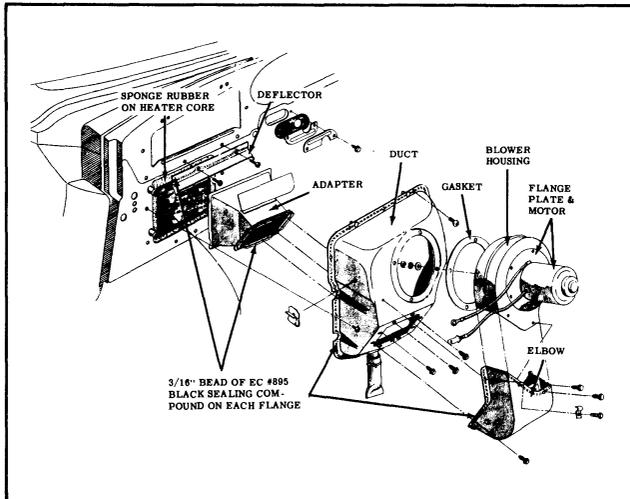

Fig. 16-12 Blower and Duct Assembly
### BLOWER AND DUCT ASSEMBLY FIG. 16-12
3. Remove motor mounting flange plate to blower assembly screws (See Fig. 16-12) and remove motor.